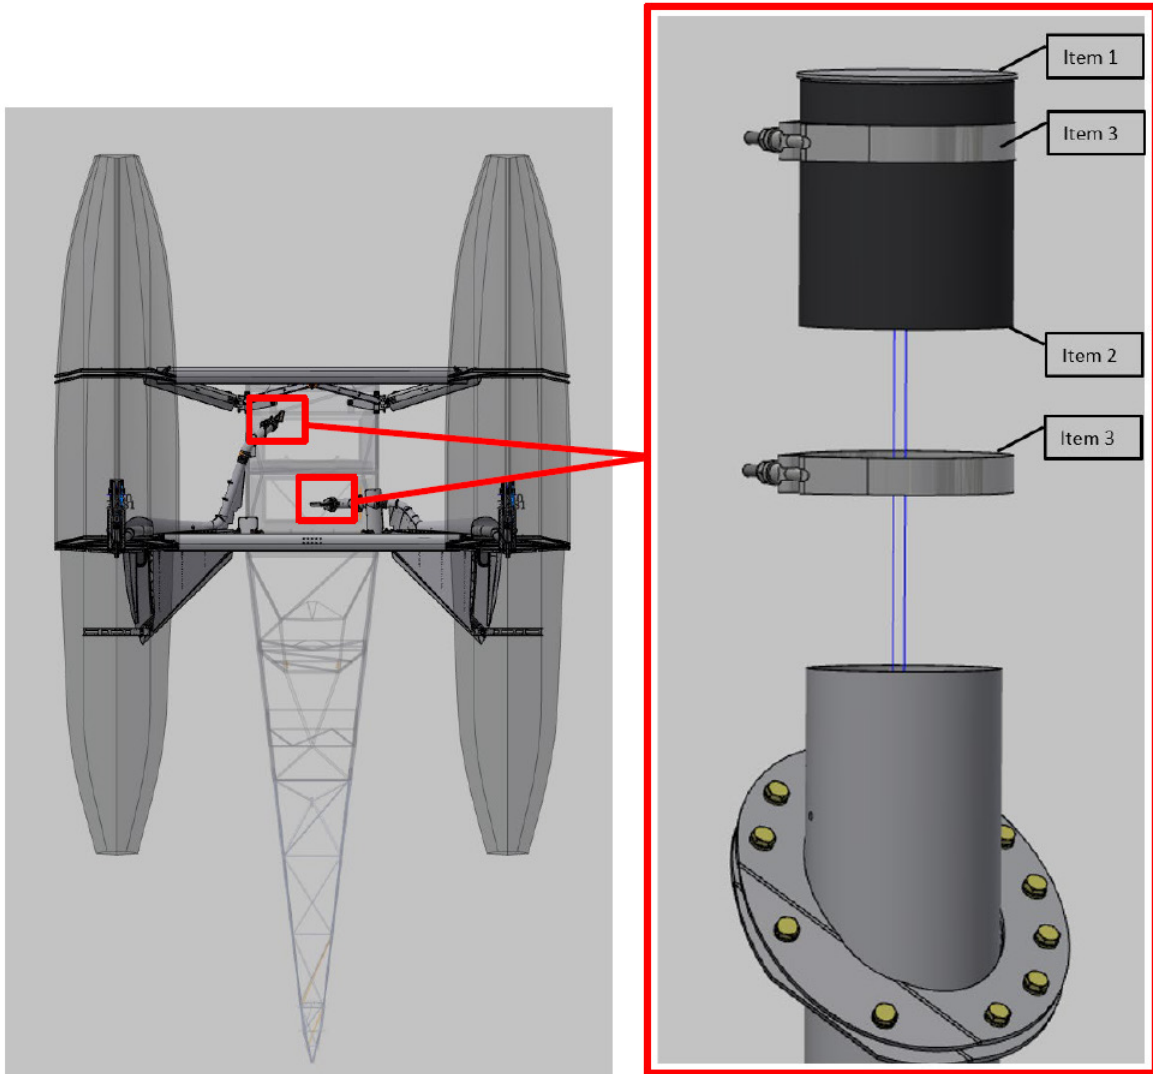

Figure 3 - Plug Assembly
12. Pre-assemble the plug (item 1) into the hose coupling (item 2) using pro-seal with bolt hose clamp (item 3) to make 2 assemblies. Install the assembly onto the forward and aft fill tubes using pro-seal during the installation. (See Figure 3).
12. Remove the forward and aft fill tube caps from the rubber coupler side. (See Figure 3).